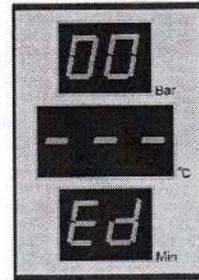

Fig 5-6
5.2.7 When a cycle completes, the display shows “Ed” the indication light “RUNNING” turns off and the indication light “READY” turns on. At this time You may then open the chamber door and unload the Instruments which are sterilized. (Fig 5-6) At the same time, temperature indicate “prt” , it means that it is Performing print, whether you Performing print, whether you Have install printer,the process can not be omitted. But you needn't care about it. It will not effect the process of opening the door and unloading the instruments. Print process will Disappear automatically.